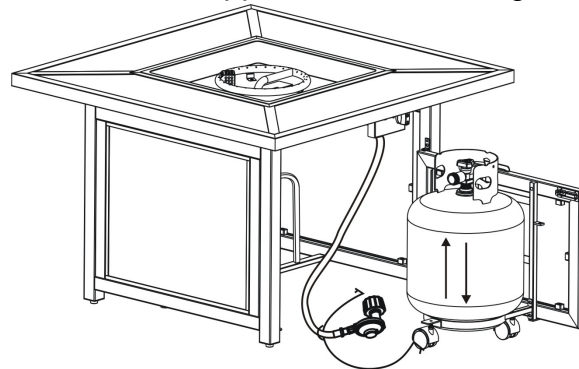

Figure 8
8. Place the gas tank onto the LP support as shown in Figure 8.